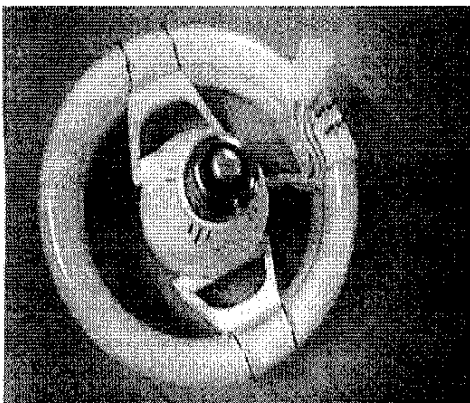

FIG.3
3. Hold the plastic housing of 4 pins on the circular lamp with one hand and gently push down the 4 pins of the circular lamp, with the other hand.(as shown in fig.3)